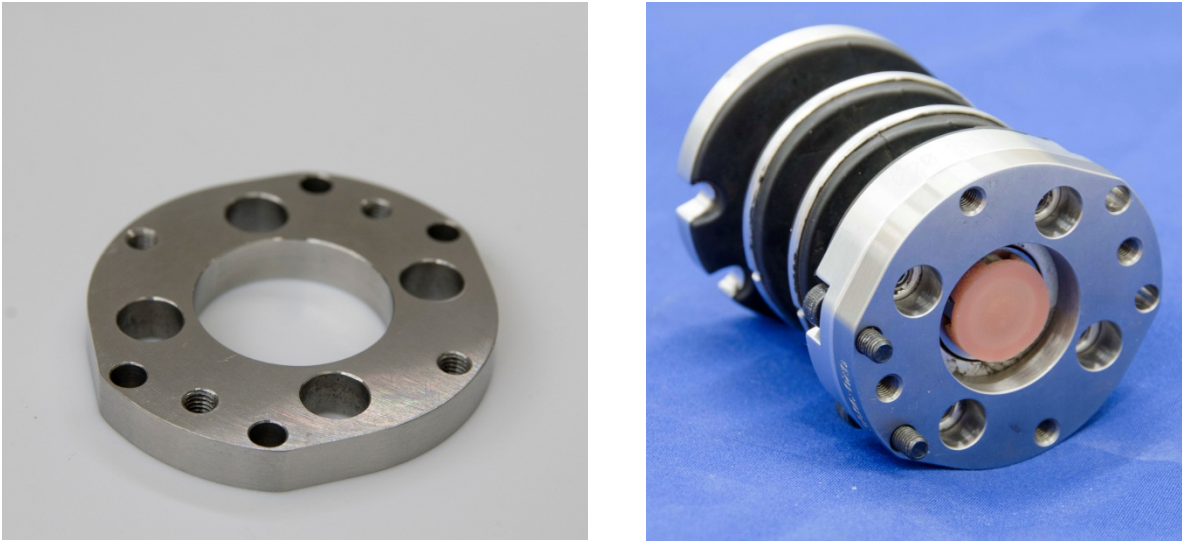

Figure 30. Positioning the neck interface plate prior to mounting neck to pendulum
- Position the neck interface plate at the base of the neck for mounting to the pendulum (Figure 30).